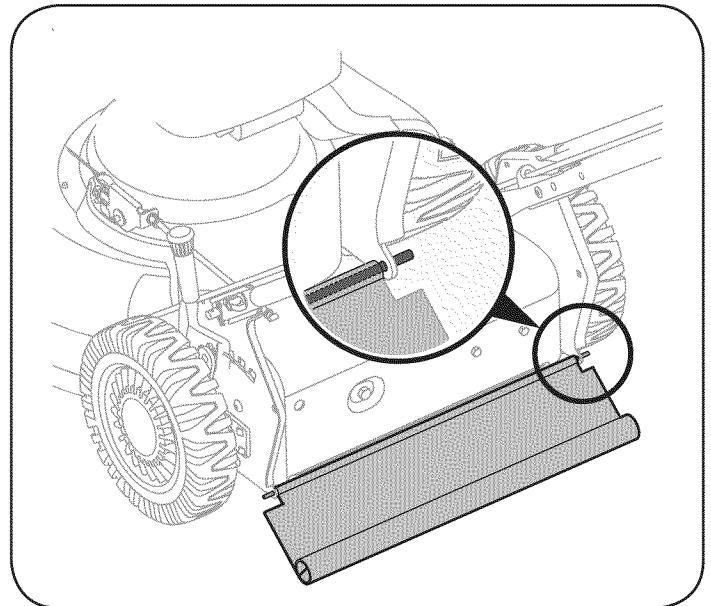

Figure 16
1. Cut off the flat end of the wire rod which secures it to the deck. See Figure 16.